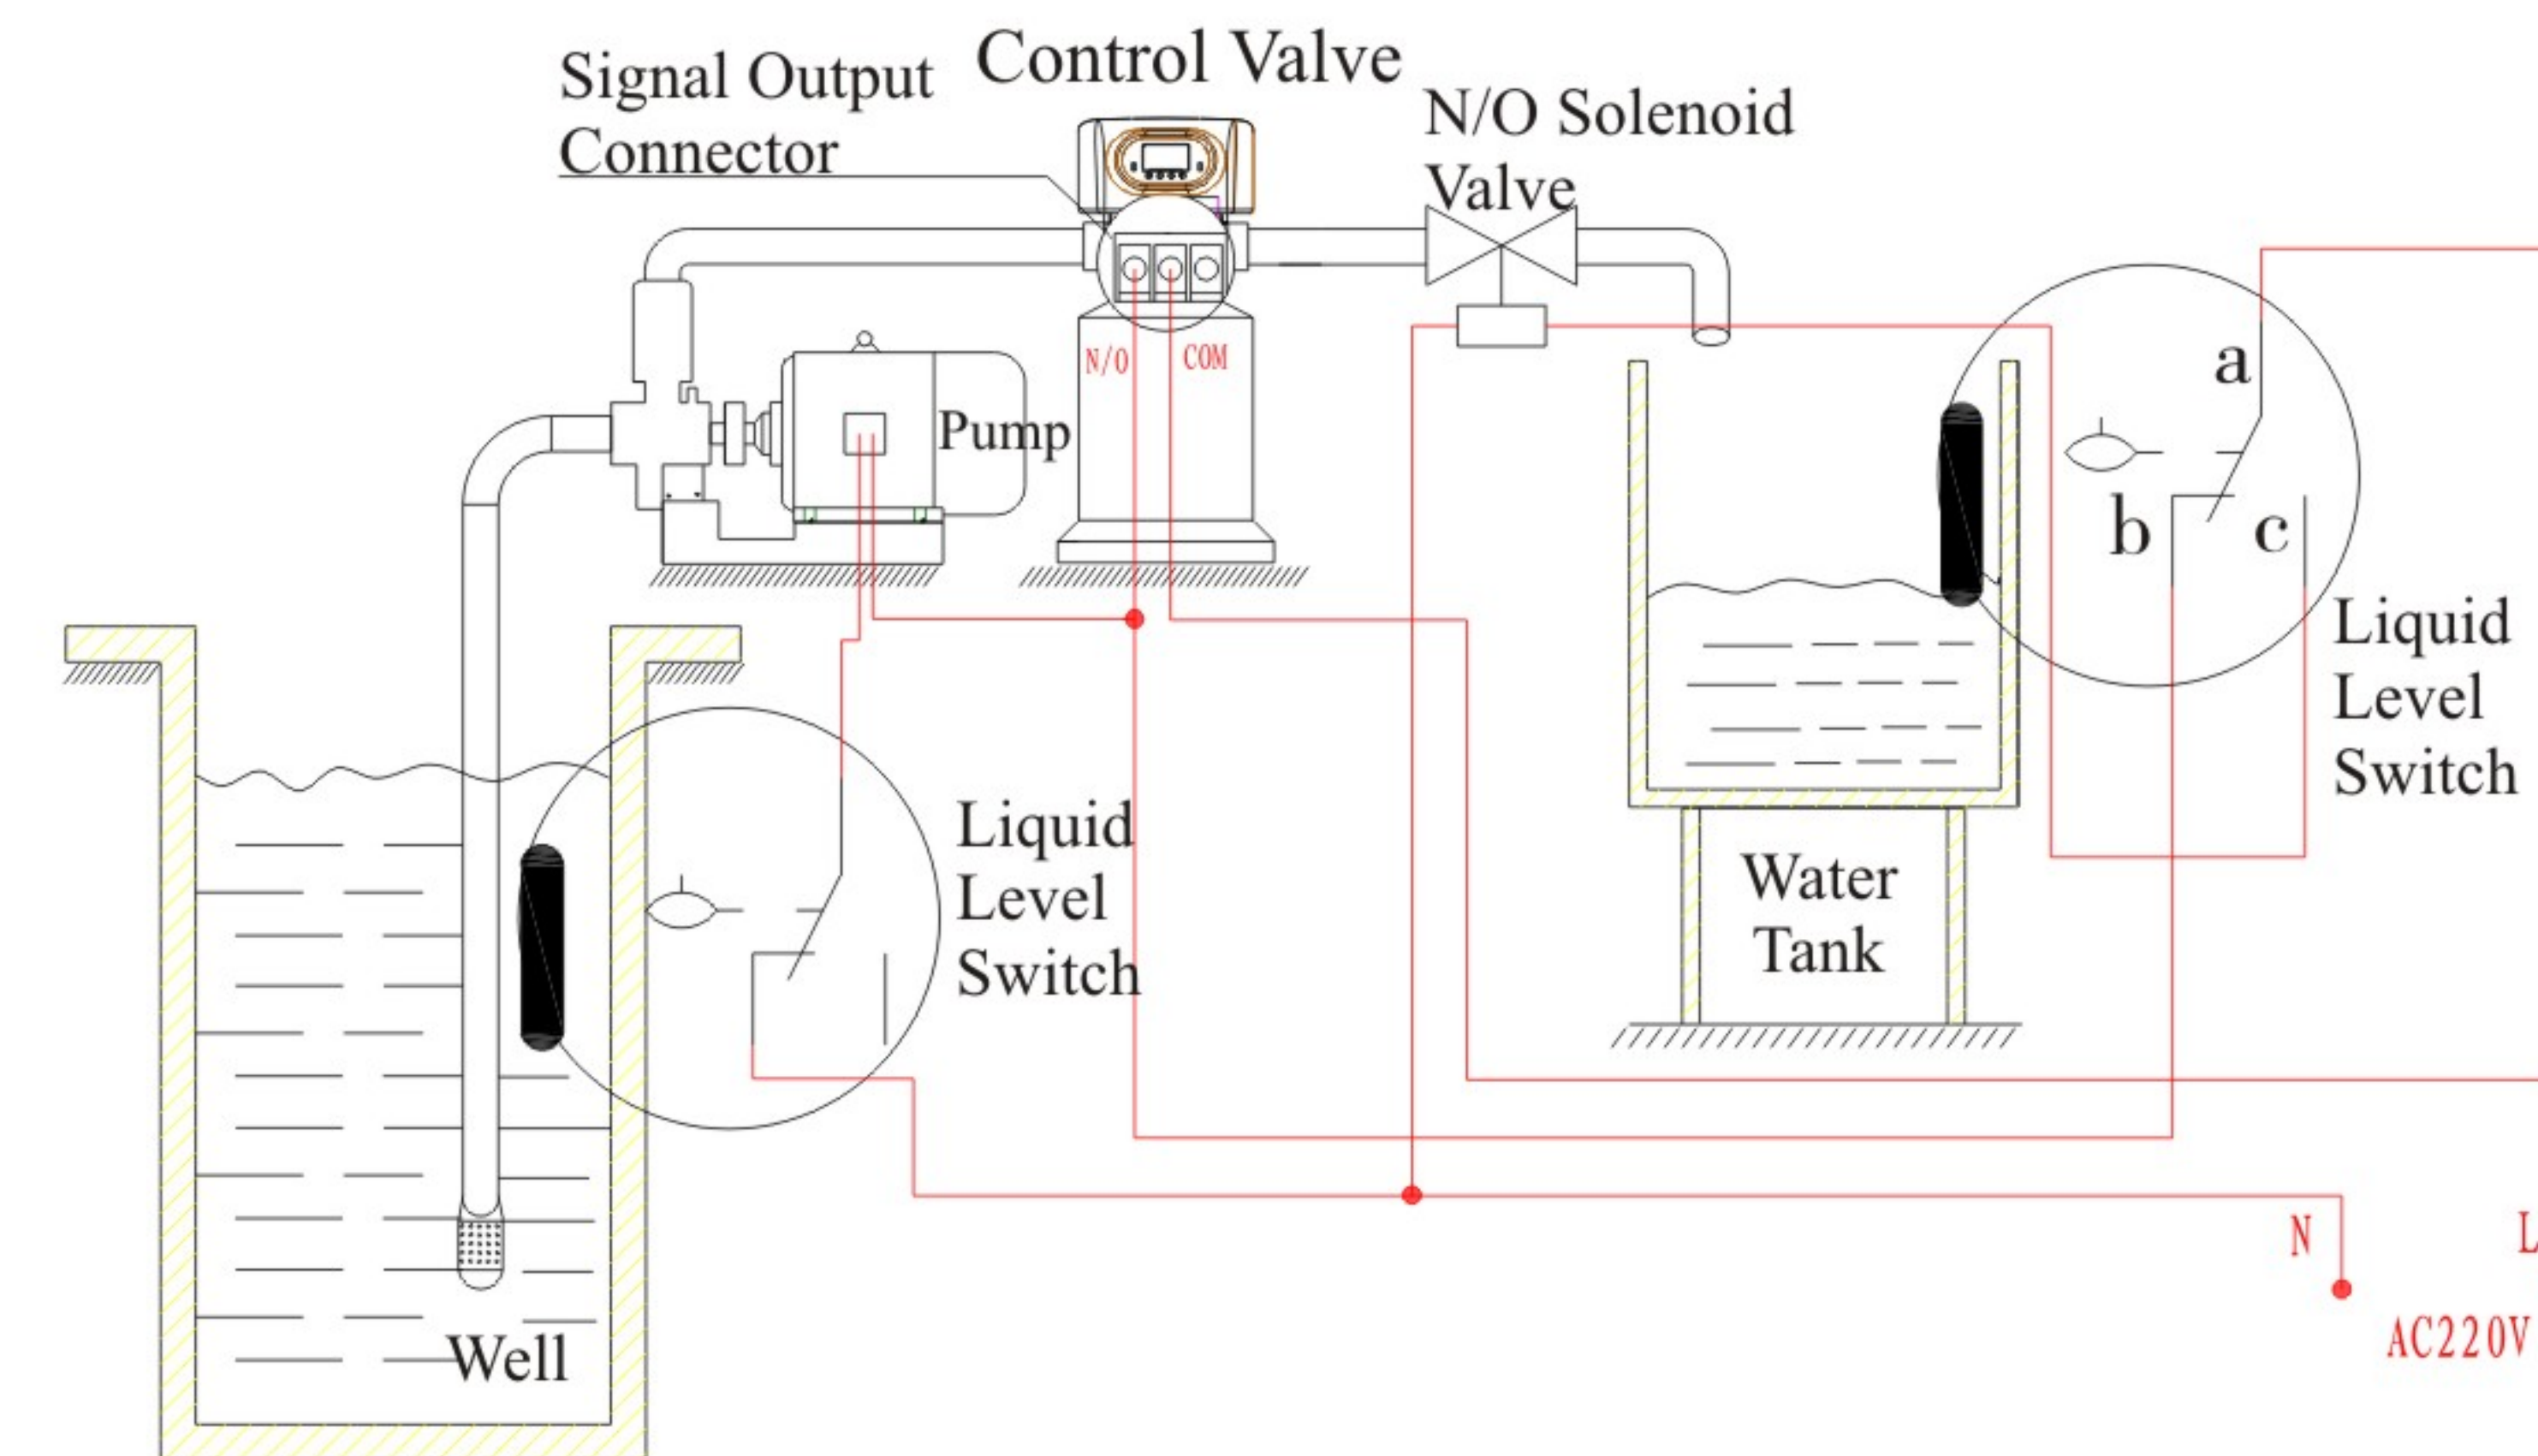

Figure 3-5 Wiring of Liquid Level Switch Control Inlet Pump
**Instruction:** For the system using well or middle-tank supplying water, switch of liquid level controller and valve together control pump opening or closing. The wiring refers to Figure 3-5: